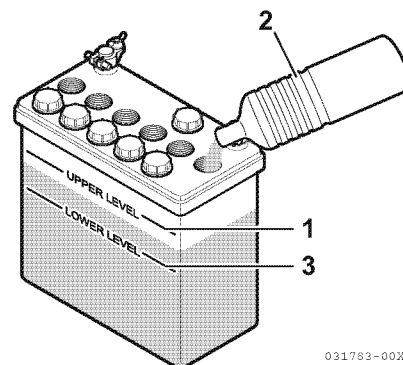

Figure 5-7
When the amount of fluid nears the lower limit (Figure 5-7, (3)), fill with distilled water (Figure 5-7, (2)) so it is at the upper limit (Figure 5-7, (1)). If operation continues with insufficient battery fluid, the battery life is shortened, and the battery may overheat and explode. During the summer, check the fluid level more often than specified.